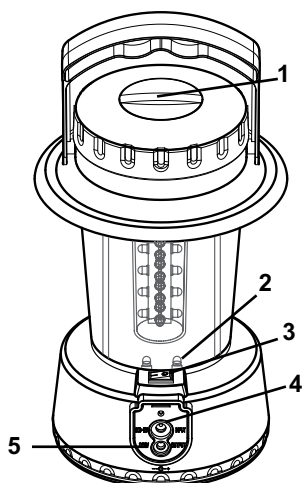

Fig.1
- Open the lantern's charge socket cover to reveal the two sockets. The higher socket (Fig.1; Sign 4) is for the solar panel input. Connect the lantern with solar panel for charging with enclosed cable. It could also connected to AC/DC power-supply with a DC adaptor cable (not included). The lower socket (Fig.1: Sign 5) is a DC 6-7V output for low-voltage devices.
- There are two switches on the lantern. One on the top (Fig.1: Sign 1) to turn the LED light on/off when rotated left/right. The lower switch is the Main Switch for the whole product (Fig.1: Sign 3). This Main Switch needs to be turned on in order to activate all functions as well as when charging the battery.
- The lantern has two LED indicators (Fig.1: Sign 2), the red LED indicates “charging” from either solar panel or AC/DC power supply device (6-12V DC, not included) and the green LED indicates the product is in proper “working” condition. When charged by solar module, the charging time will be around 12 hours under full sun. Use solar module for initial charging for at least one day without using the lamp. Lighting time will be around 5-6 hours with fully charged battery.